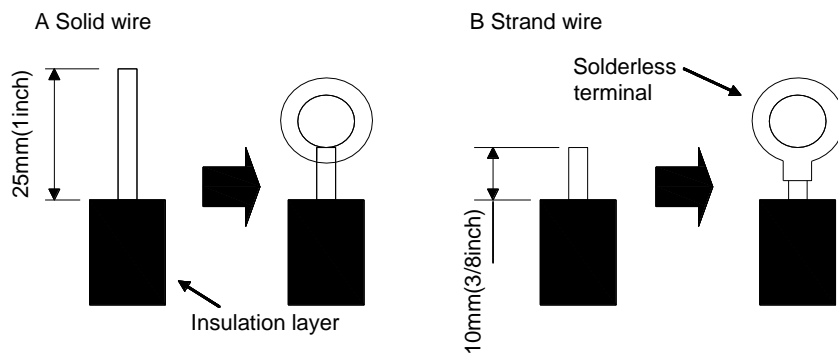

Figure 3-2-6
(1) For solid core wiring (Figure 3-2-6)
- (2) For strand wiring (Figure 3-2-6)